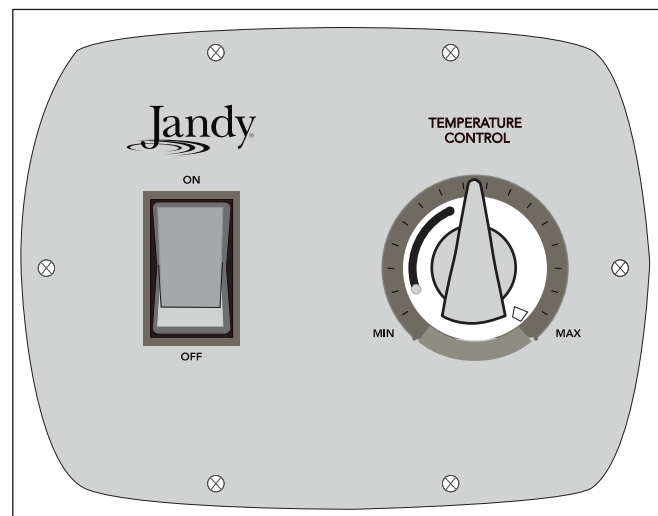

Figure 17. Temperature Control
The temperature control (see Figure 17) is calibrated at the factory and covers a range from approximately 70°F to 104°F (21°C to 40°C). Use an accurate pool thermometer to determine the best water temperature for your uses.
The Legacy temperature control panel has a rocker switch to turn the heater on and off. It also has a rotary dial to set the desired thermostat setting (see Figure 17).
1. Turn the heater control to OFF. See Figure 17.